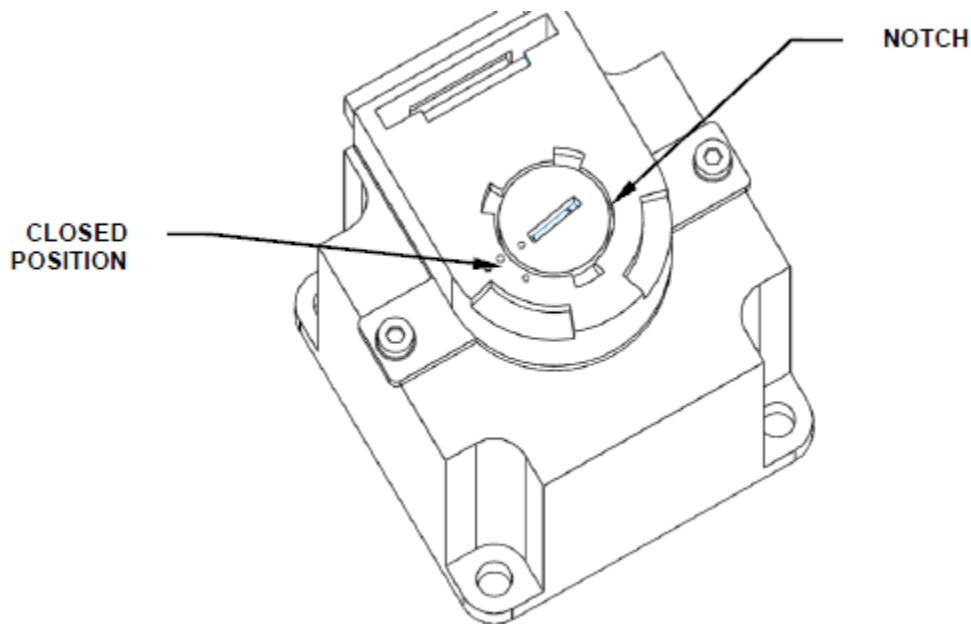

Figure S-8: Rotating the Encoder Position
5. Rotate the encoder cover from the open to the closed position by inserting a small flat blade screwdriver into the notch and rotating as shown in Figure S-8. The encoder cover is shown in the closed position in the figure.